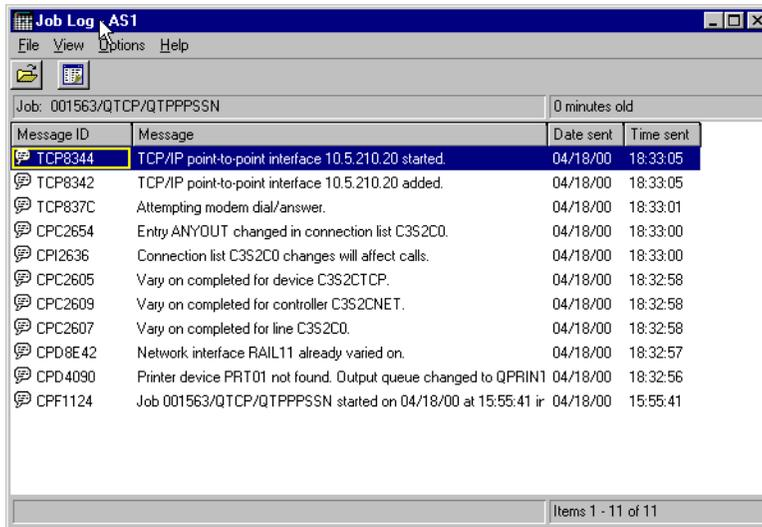

Figure 79. Job log of the profile on AS2
6. View the job log of the profile on AS2 (Figure 79).